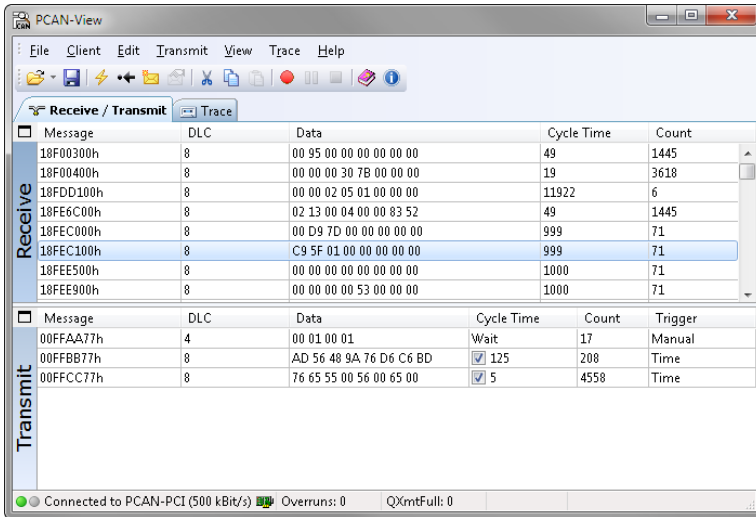

Figure 6: Receive/Transmit Tab
5. Finally confirm the settings in the dialog box with **OK**. The main window of PCAN-View appears (see Figure 6).